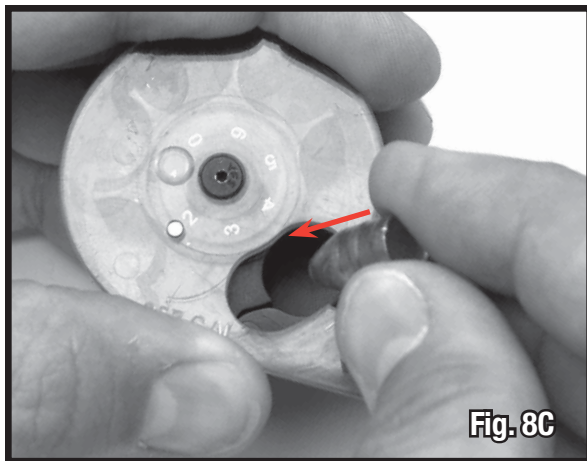

Fig. 8C
- Place a finger under the clip covering the hole, place the first bullet in the clip, nose first (Fig. 8C). Make certain the bullet does not protrude, out the back of the clip. In the event the bullet does protrude simply push the bullet inward.